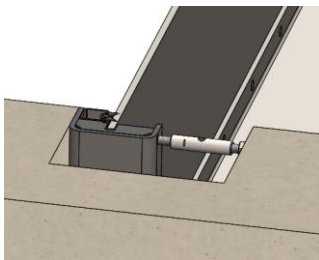
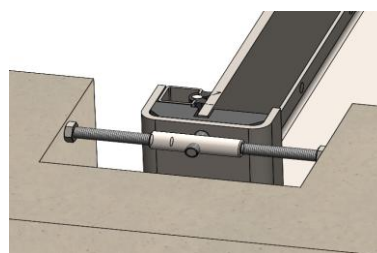

Fig. 9
Fig. 10
- Position Sluice gate valve in respective recess and align with plumb and level acc. Fig. 9.
Standard seals can be caulked and fixed in the recess using threaded sleeves and appropriately long hexagonal screws. Four-sided seals with cross seals are positioned on the rear support surface (Fig. 9), and three-sided seals without cross seals are usually positioned approximately in the middle of the recess (Fig. 10). The horizontal position can be adjusted using the levelling screw.